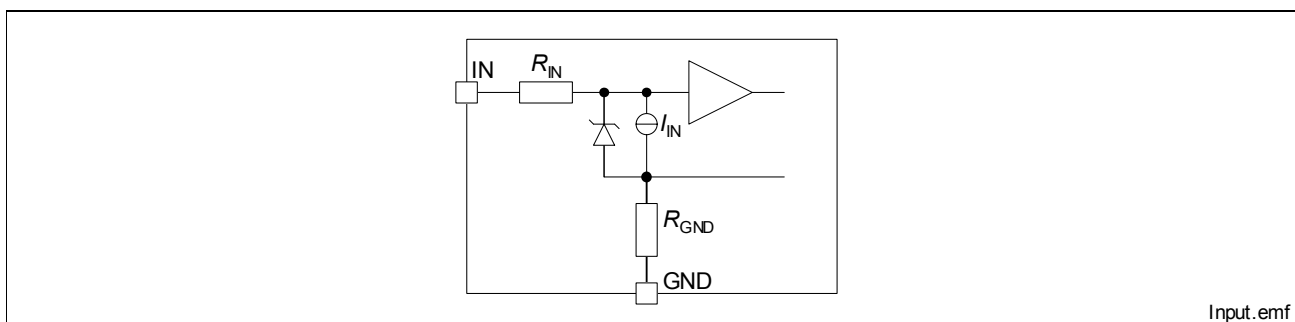

Figure 5 Input Circuit (IN1 and IN2)
**Figure 5** shows the input circuit of the BTS 5235L. There is an integrated input resistor that makes external components obsolete. The current sink to ground ensures that the device switches off in case of open input pin. The zener diode protects the input circuit against ESD pulses.